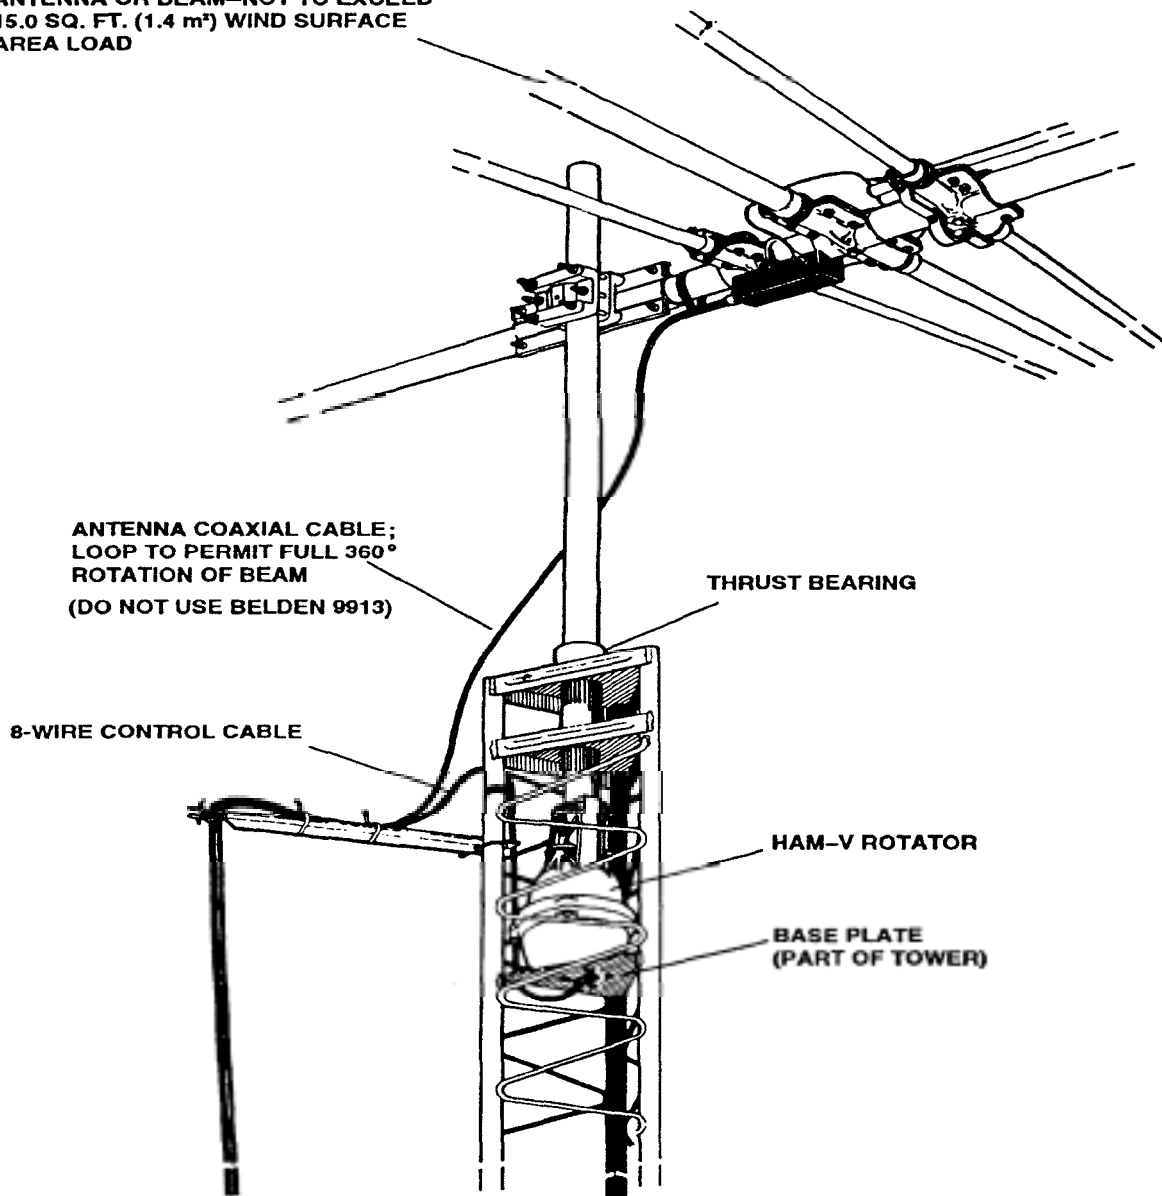
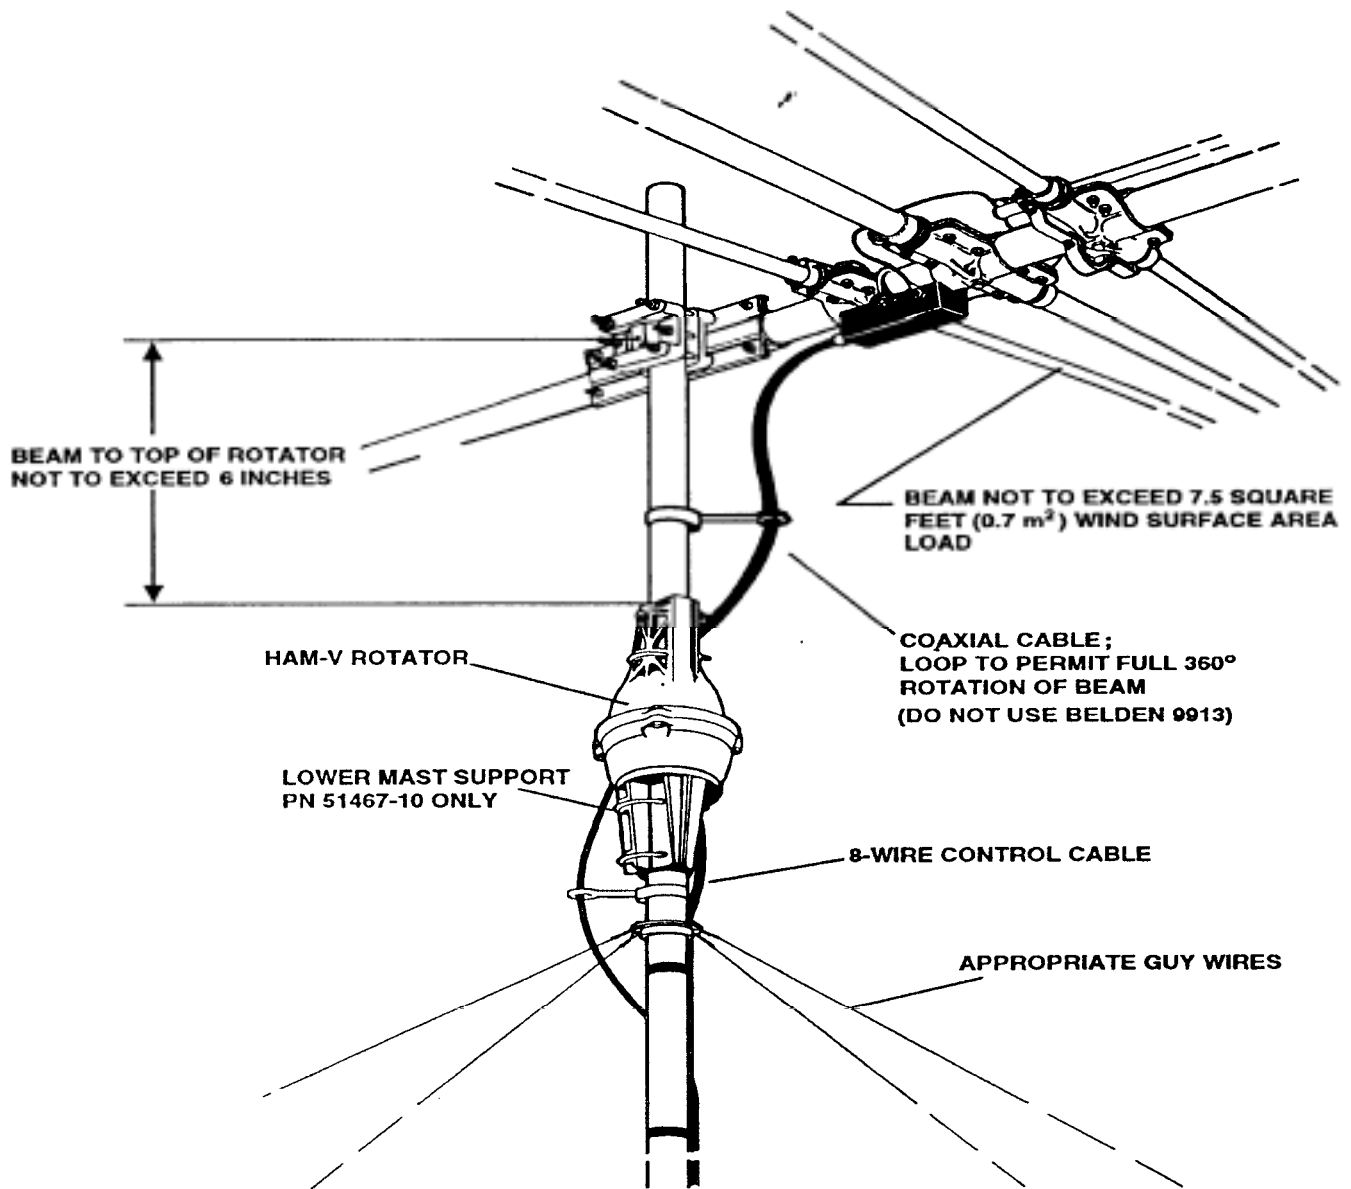

Figure 3 Rotator
Figure 5 Pole Mounted
The optional heavy-duty lower mast support kit must be procured if you elect to use a mast mount (see Figure 5 and 9). The part number for this kit is 51467 10. When using the lower mast support, the antenna size is restricted to 7.5 square feet of wind area. The "inside tower mount" configuration is recommended (see Figure 3 and 8).
There are three general types of rotator installations (see Figures 3, 4, and 5).
The rotator is mounted inside a tower, see Figure 3 and 8, to the flat tower plate by means of four (4) bolts furnished in the hardware kit. Use the following procedure:
2. Attach the rotator to the tower plate by means of four (4) bolts and lockwashers (see Figure 3 and 8). The flat tower plate must be drilled in four (4) places using the template provided with this manual unless the tower plate is already properly drilled. Tighten the four (4)
The rotator is mounted to a vertical mast, see Figure 5 and 9, by means of four (4) bolts and the optional lower mast support, P/N 5146710. Use the following procedure:
1. Attach the rotator to the lower mast support by means of four (4) bolts, nuts and lockwashers. Tighten the four (4) bolts. Attach this assembly to the top of the mast as shown in Figure 5. Tighten all bolts securely.